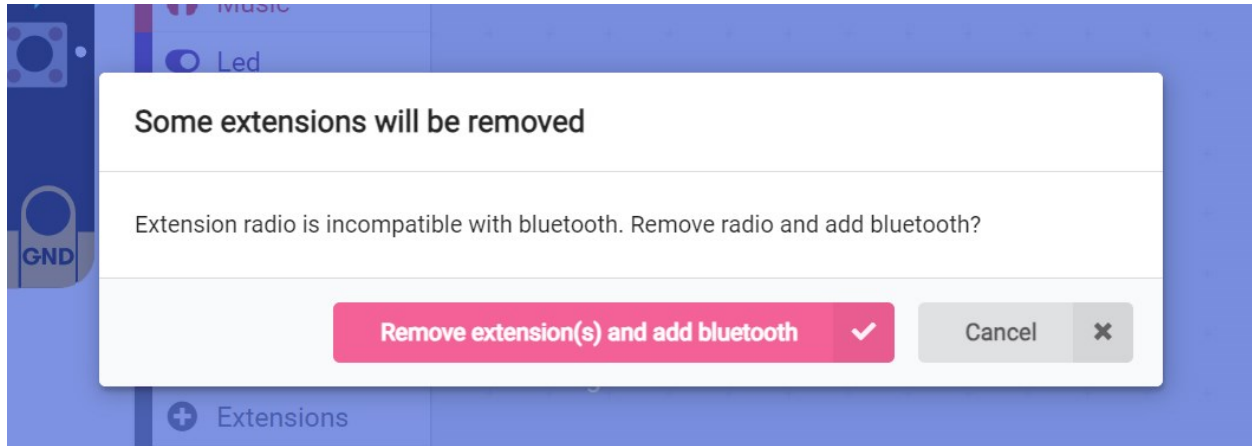

Figure 6: Warning regarding extensions that will be removed
**Note:** Before adding the new menu, a warning/notification will pop-up (Figure 6), informing that the radio extension is incompatible to Bluetooth and should be removed. Click on the “**Remove extension(s) and add bluetooth**” button to confirm your choice.